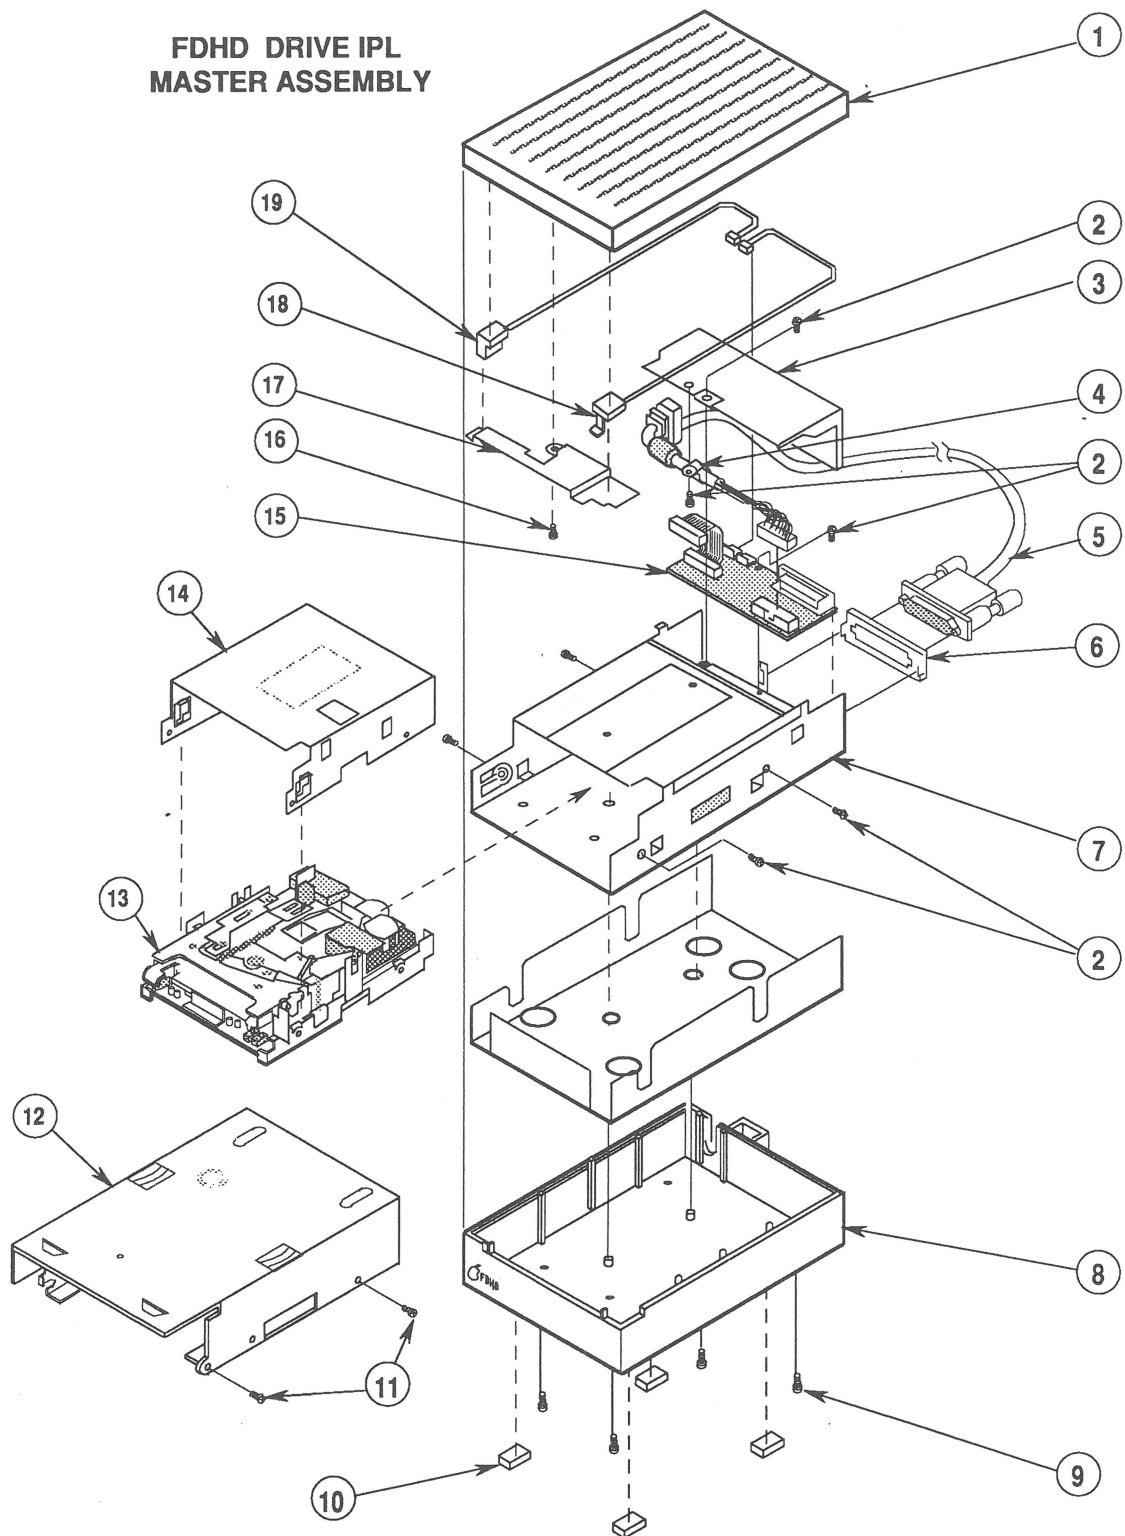

FIGURE 1
- IPL.3 Finished-Goods Assembly (Figure 1)
□ FINISHED-GOODS ASSEMBLY (Figure 1)